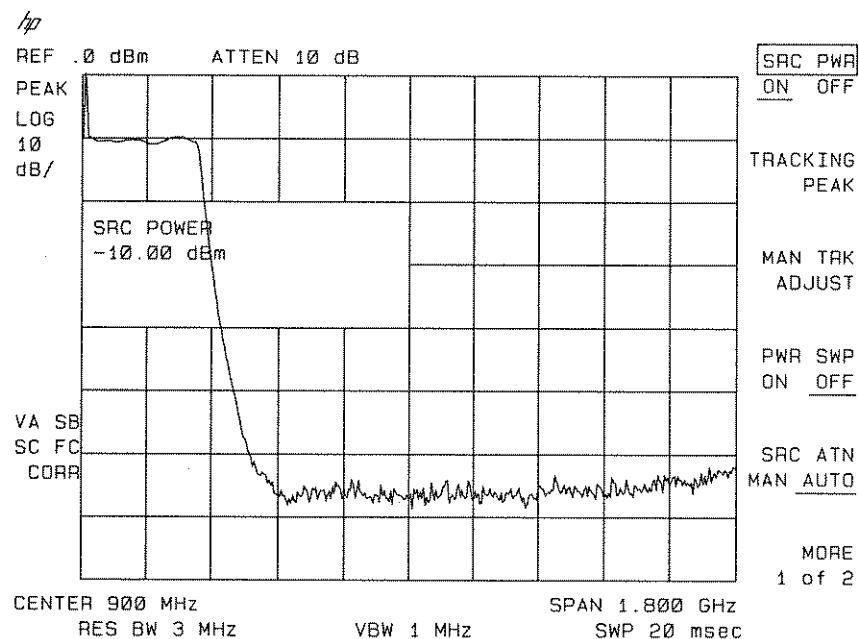

Figure 6-34. Tracking-Generator Output Power Activated
3. Activate the tracking generator menu by pressing **AUX CTRL**, **TRACK GEN**. To activate the tracking-generator power level, press **SRC PWR ON OFF** until ON is underlined. See Figure 6-34.